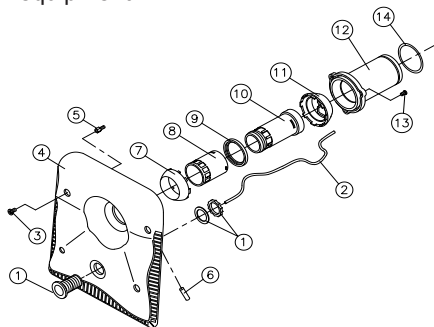
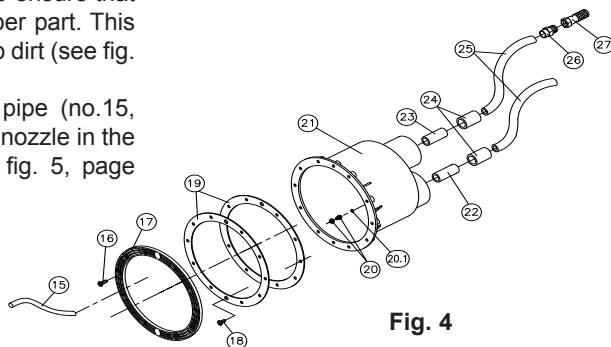

Fig. 3
Fig. 4
**5.1** In order to fix the niche in a liner wall you should follow the instructions given in chapter 2 (place of installation). Fix the seals (no.19, fig.4), to the niche (no.21, fig.4) with the screws (no.18, fig.4), bearing in mind that the liner will lie between the two seals (no.19, fig.4). Finally, fit the ring (no.17, fig.4) and attach it with the screws (no.16, fig.4).
**6.1** The niche is supplied with pipes no.22 and 23 (fig.4) already installed. Additionally, one of the hoses (no.24, fig.4) is supplied glued inside pipe no.22. Once the niche has been fixed to the wall, following the instructions given in chapter 2, proceed to install the pneumatic and air lines.
Lastly, install the flexible pipe (no.15, fig.4) pressing it inside the nozzle in the interior of the niche (see fig. 5, page 17).
This line is made up of a pipe (no.22), a hose (no.24) and a flexible pipe (no.25). As the pipe (no.22) and the hose (no.24) are already installed in the niche, you only need to glue the pipe (no.25). Before gluing the end of the pipe (no.25) to the hose (no.24), fit the transparent pipe (no.2, fig.3) into the pneumatic line and pass the end of the transparent pipe (no.2, fig.3) through the hole in the niche. Fix it in position with the clamp (no.20 and 20.1, fig.4). Once this is complete, glue the pipe (no.25) to the hose (no.24).
The end of the pipe (no.2, fig.3) will be connected to the microswitch located on one side of the hydropneumatic cut out included with the HIDROJET equipment.